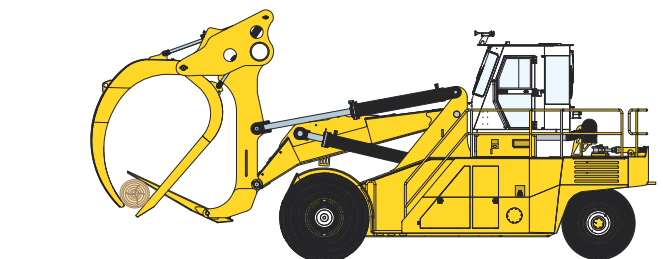

Figure 4-7-4 Flexibility
5. Figure 4-7-4 shows a good example of the Lumberjack's flexibility. The log is under the tines and is held by the holddown and kickoff arms. Partial loads should be held with the holddown and kickoff arms.